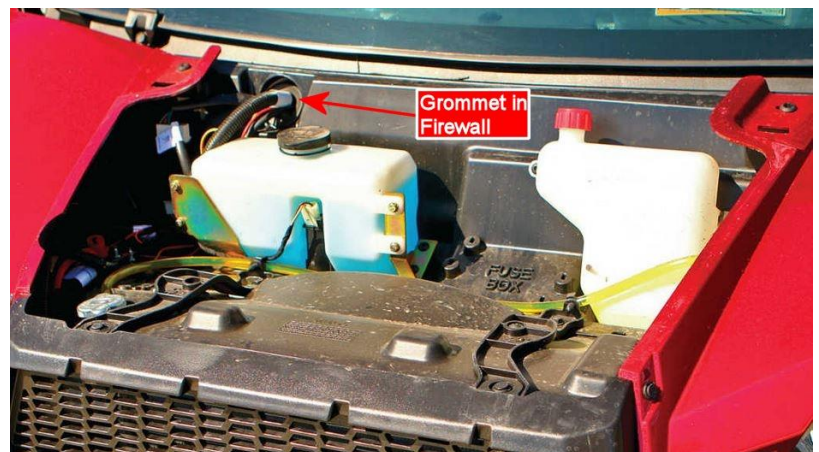

Figure 4b
13. Route the wires through the rubber grommet that is factory installed in the firewall (see Figure 4b for rubber grommet location in firewall). Temporarily set the wires at the top of the dash area.